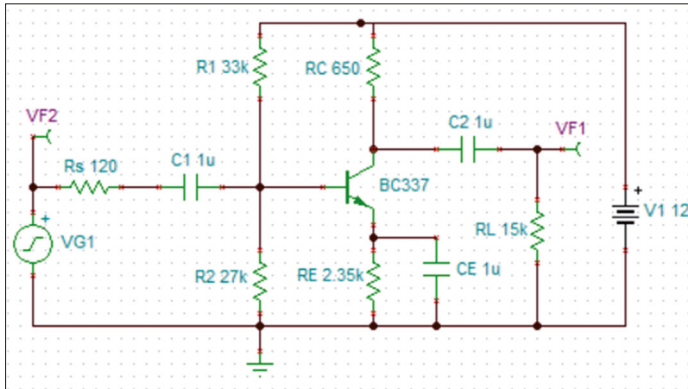

Figure 3.76: Insert Voltage Pins.
- Click Meters again and select the Voltage Pin and place it at the input of the circuit (named VF2). See Figure 3.76.